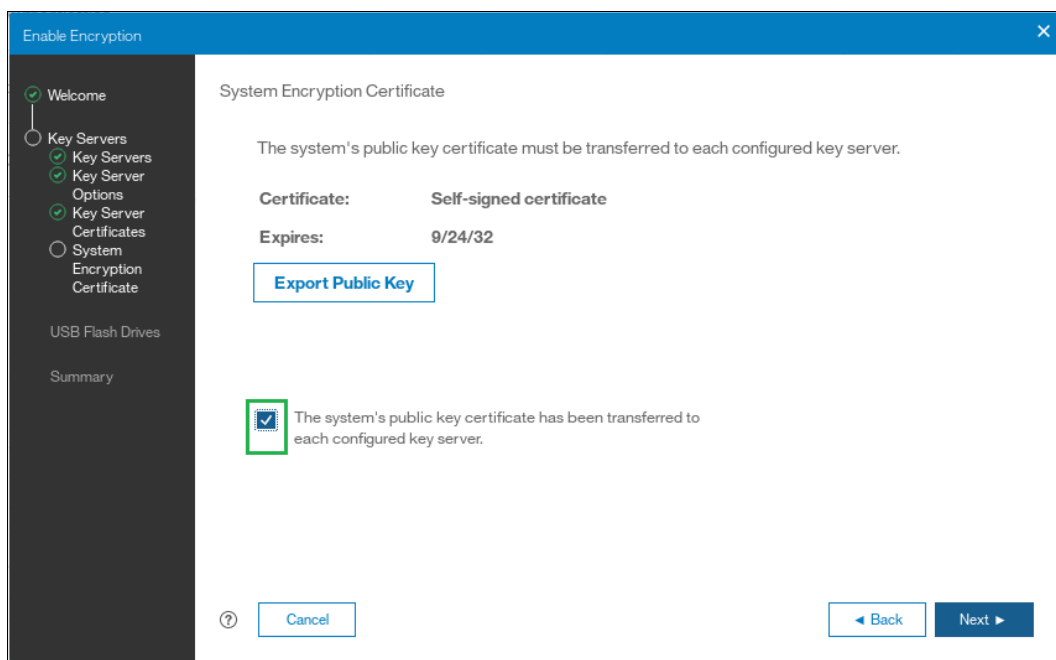

Figure 13-46 Acknowledge controller firmware SSL certificate transfer
8. When the controller firmware system SSL certificate has been installed on the SKLM key server, acknowledge this by selecting the box indicated in Figure 13-46 and click **Next** to proceed to the next step.